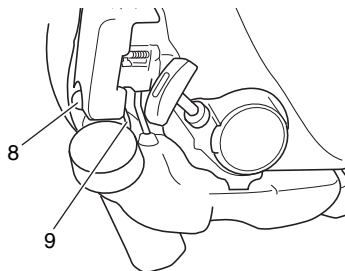

Fig. 5
* Push priming bulb (8) several times so that fuel flows through the bulb or return pipe (9). (Fig. 5)